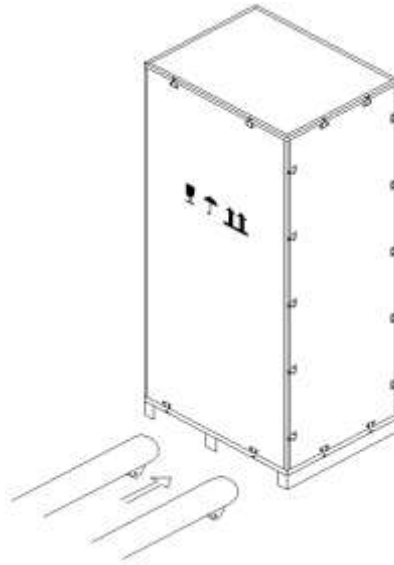

Fig.2-2 Transport to the designated site
2. Transport the equipment to the designated site by forklift, as shown in Fig.2-2.